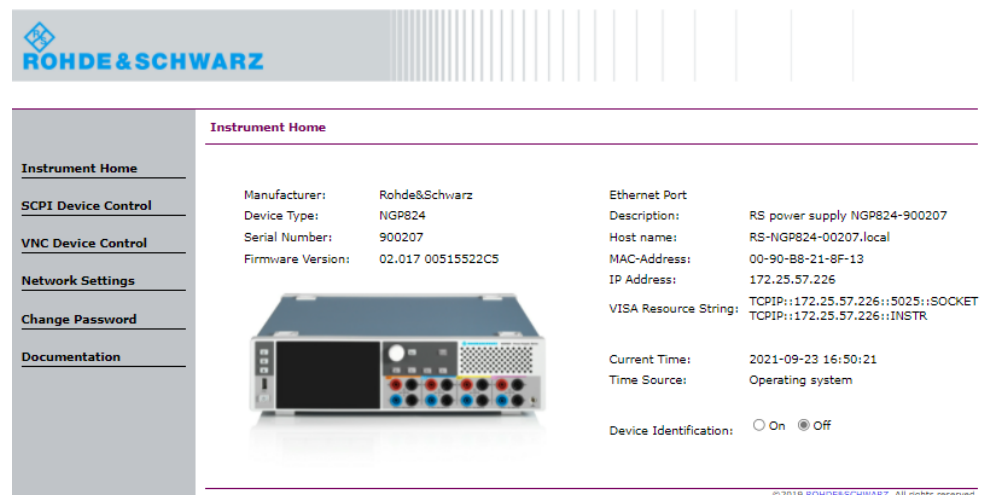

Figure 8-9: Instrument home webpage of a power supply model
4. Alternatively, connect to the instrument webpage using the IP address or hostname on the web browser URL bar. If connected successfully, the "Instrument Home" webpage is displayed. See Figure 8-9.
Displays instrument information (e.g. model, serial number, firmware version). See Figure 8-9.